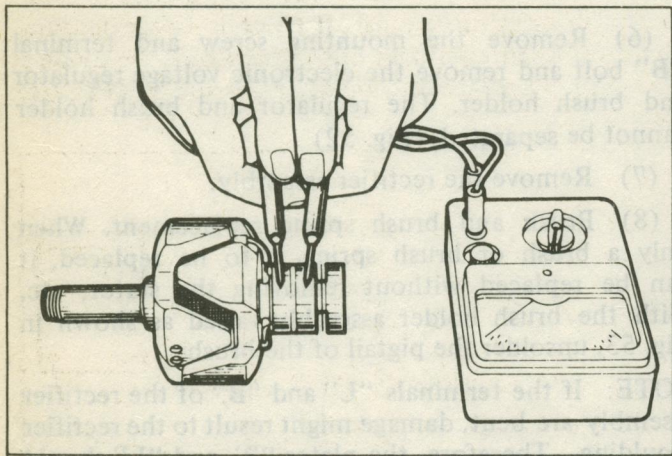

Fig. 54 Field Coil Continuity Test
(2) Check for continuity between the field coil and slip ring. If there is no continuity, the field coil is defective. Replace the rotor assembly. (Fig. 54)